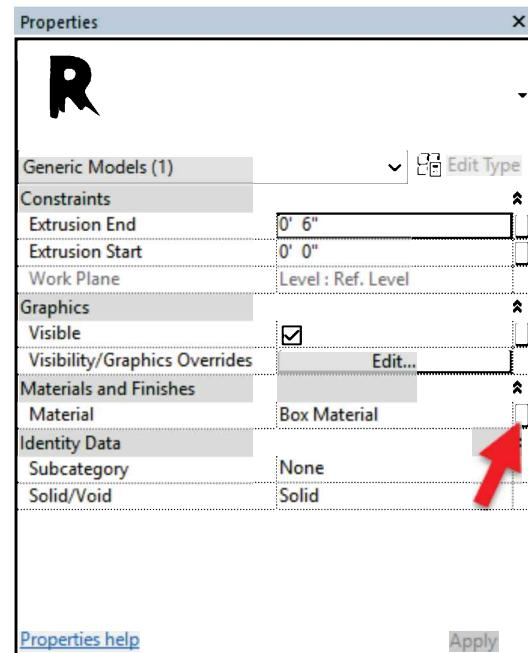

FIGURE 17-4.18 Mapping material to parameter
36. Click the small mapping icon to the far right of the **Material Parameter** (see Figure 17-4.18).